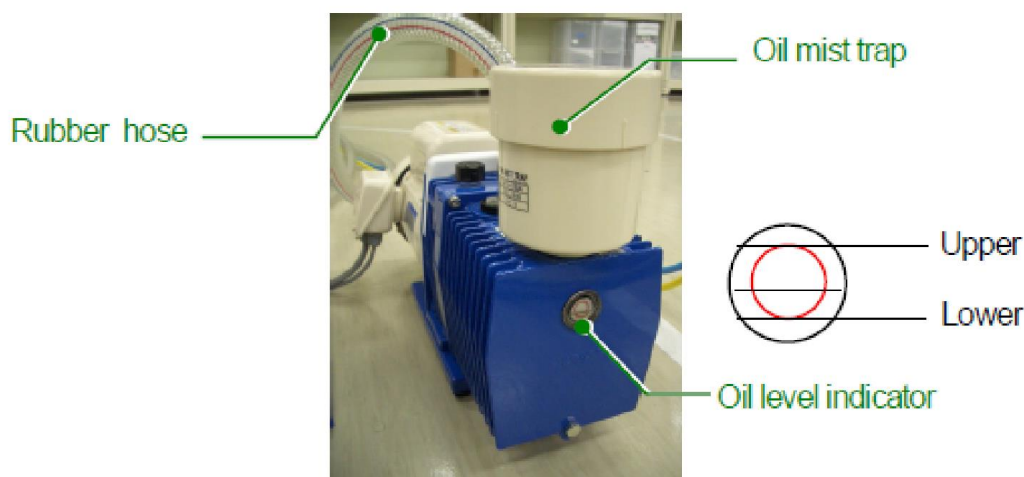

Figure 8: Rotary pump oil level indicator.
1. Record the starting time and date on the sheet in the Usage Log. Enclosure (8) contains a copy of the usage log sheet.
4. Check that the oil level in the rotary pump (located on the floor behind the SEM cabinet) is above the lower limit. See Figure 8.